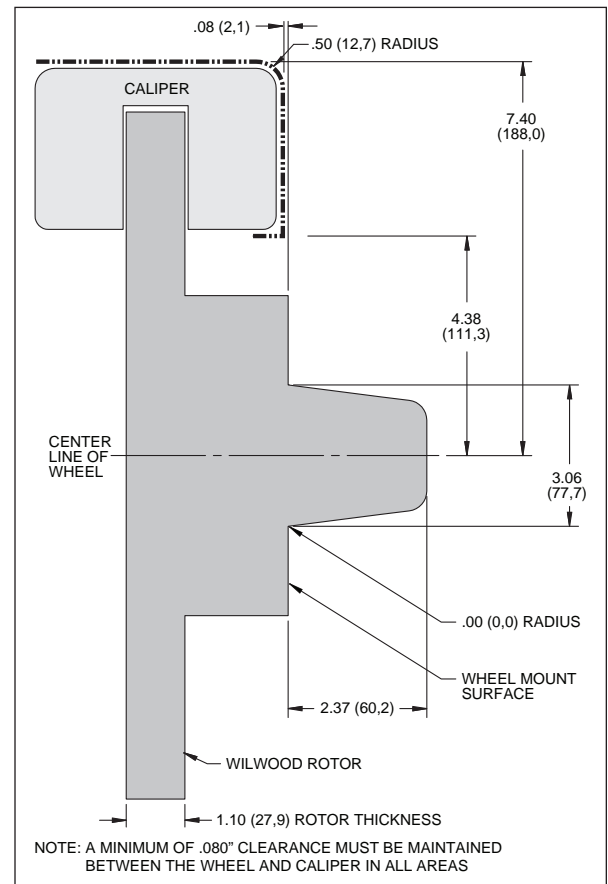

Figure 3. Wheel Clearance Diagram
- Review the Wheel Clearance Diagram (Figure 3, page 5) to verify that there is adequate clearance with the wheels you will be using with the installation.
- Verify wheel clearance utilizing Figure 3.